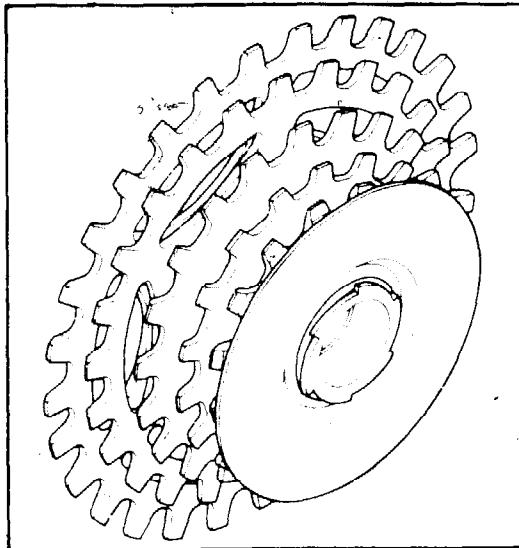

Fig. 2-37. A rear frictional freewheel assembly.
- The front crank is freewheeling. If an object such as a pants cuff gets caught in the chain, the rear freewheel (see Fig. 2-37) will engage and override the front freewheel and stop the chain. This is an important safety feature.